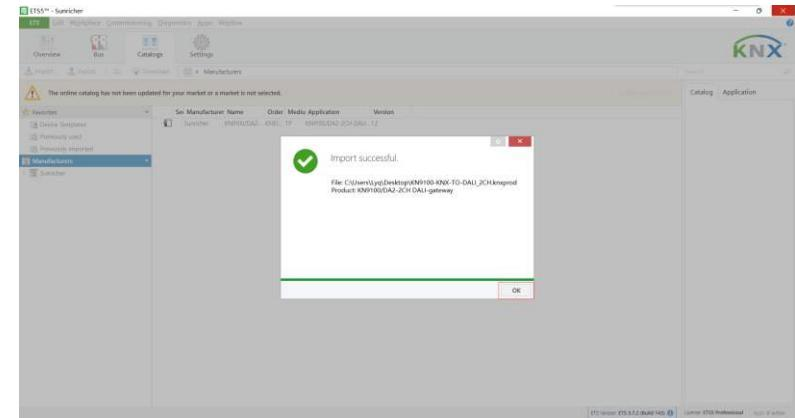

Figure 16
2.3. Database is imported successfully, click on “**OK**” button as shown in Figure 16.